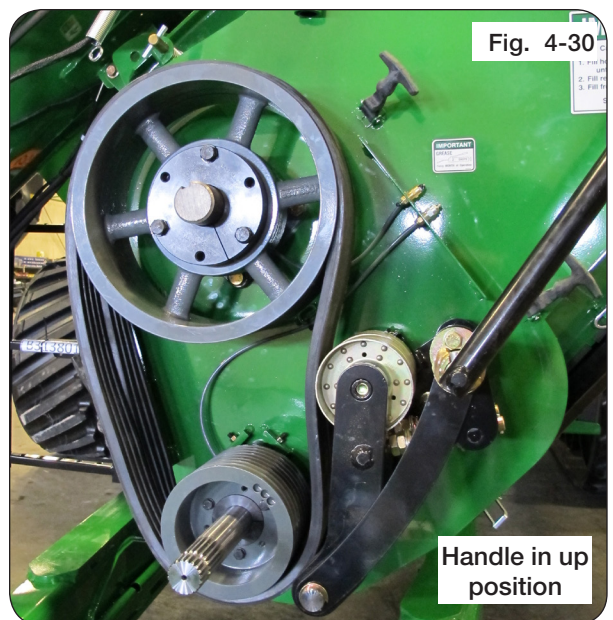
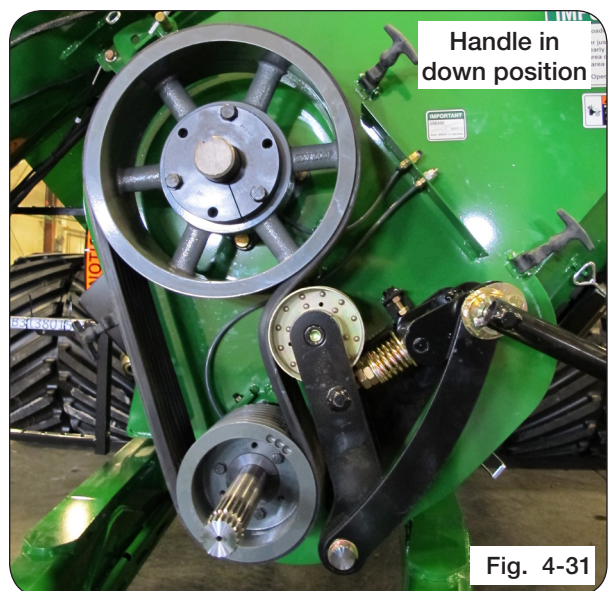

Fig. 4-30
Fig. 4-31
6. Check the lower belt pulley to ensure belt is aligned in their grooves. Using the belt tensioner handle, engage the roller/idler linkage against the belt and over-center stop. The compressed spring should now be approximately  $1\frac{3}{4}$ " between the washers and generating a force of approximately 480 lbs. against the belt. (Fig. 4-30)
7. Release and tighten belt multiple times to confirm positions and final adjustments. See Fig. 4-30 and Fig. 4-31.